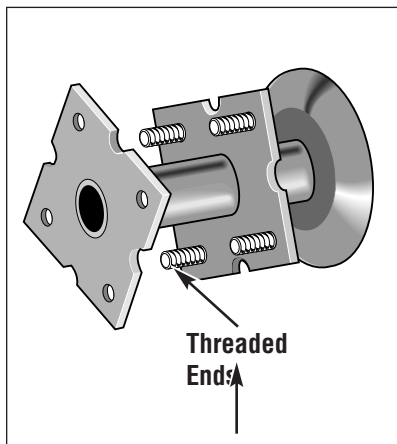

Figure 4: Insertion of bolts.
A. Place the sixteen bolts through the holes in the tine holders with the threaded ends of the bolts pointing outward toward each side of the tiller as shown below in Figure 4. (**The installation of tines on holders is described later in these instructions.**)